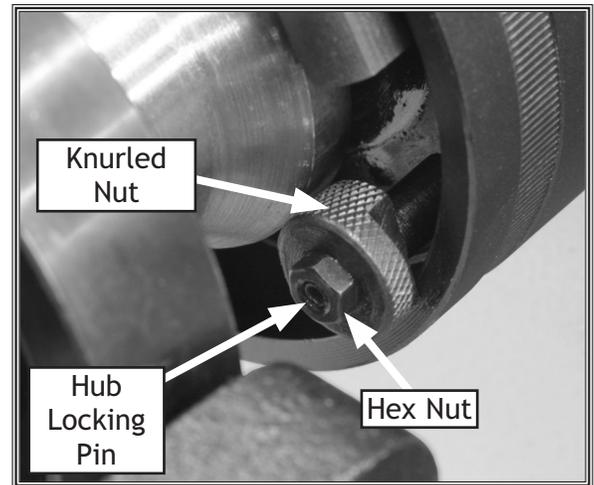

Figure 17. Hex nut and knurled nut adjusted.
2. Thread the hex nut to the end of the hub locking pin. Turn the knurled nut until it touches the hex nut, as shown in **Figure 17** and tighten.